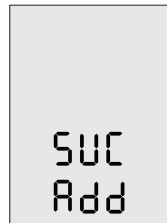

Figure 5-10
Step6: After pairing, the LCD panel will display as Figure 5-10 for 5s, then returning to home page automatically.